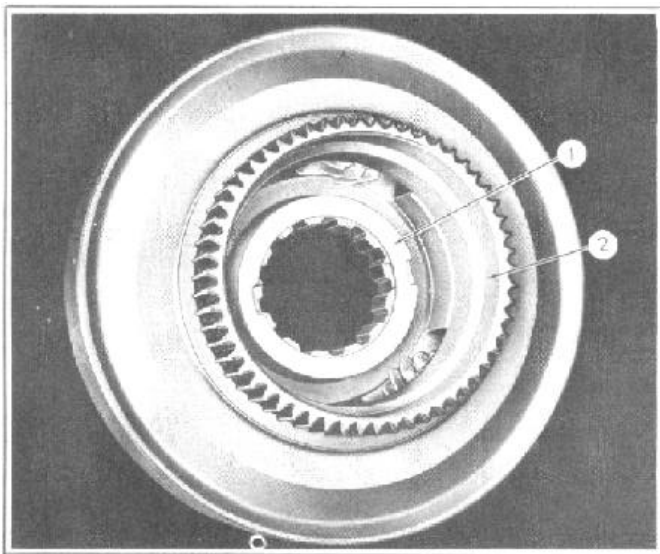

FIGURE 96
5. Remove the front sun gear thrust washer (1), Figure 96, from the hub of the front planetary carrier or the inner hub of front sun gear.